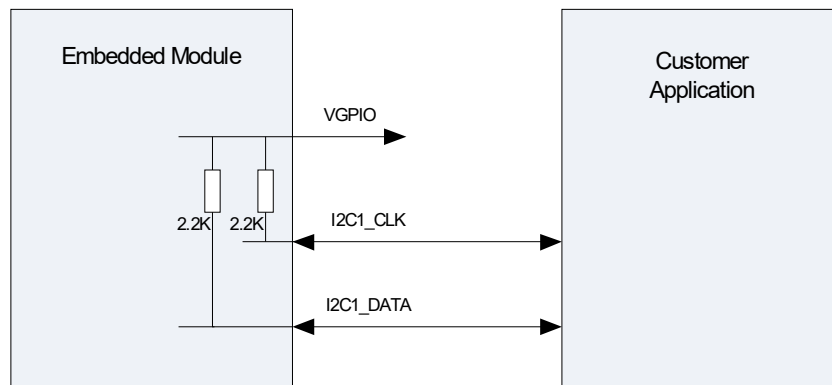

Figure 4-5: Example of I2C Bus Application
- I2C signals are implemented internally as open drain outputs (per the I2C specification) with 2.2 k $\Omega$  pull-up resistors to VGPIO (see Figure 4-5 on page 66).